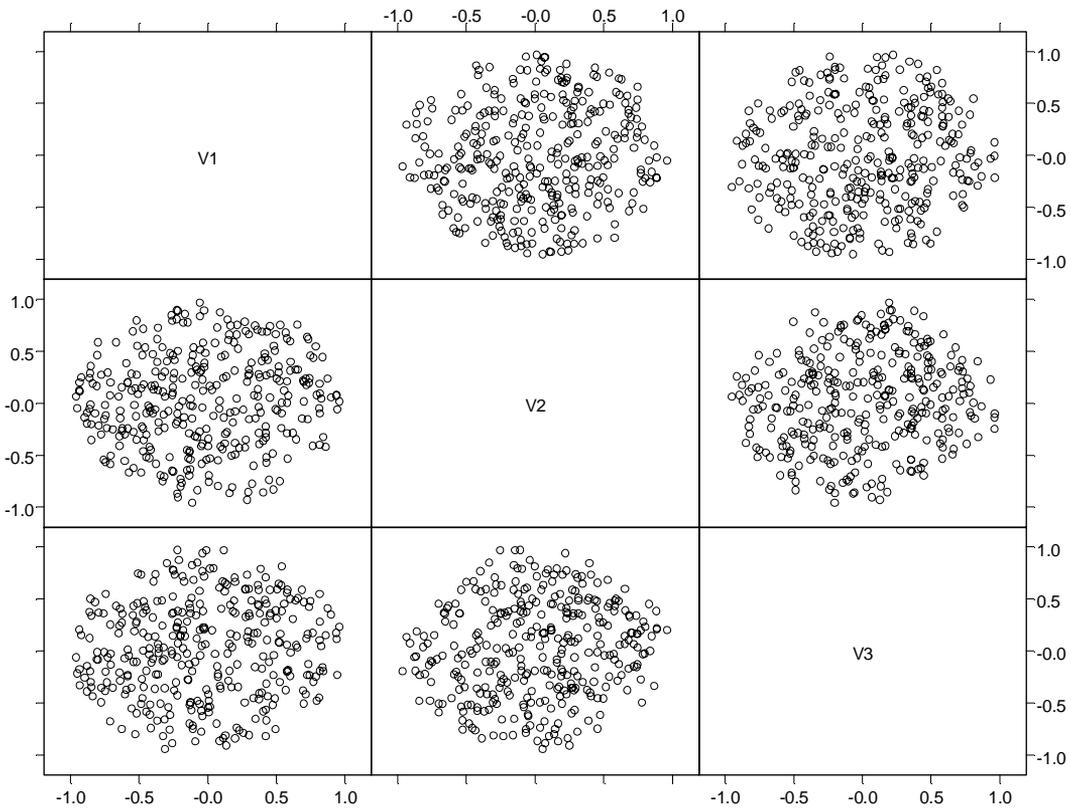

Figure 3.43: Scatterplot matrix of the sliced ball data.
3. Click the **Scatter Matrix** button  on the **Plots 2D** palette. Each panel displays an apparently random ball of data, as shown in Figure 3.43.